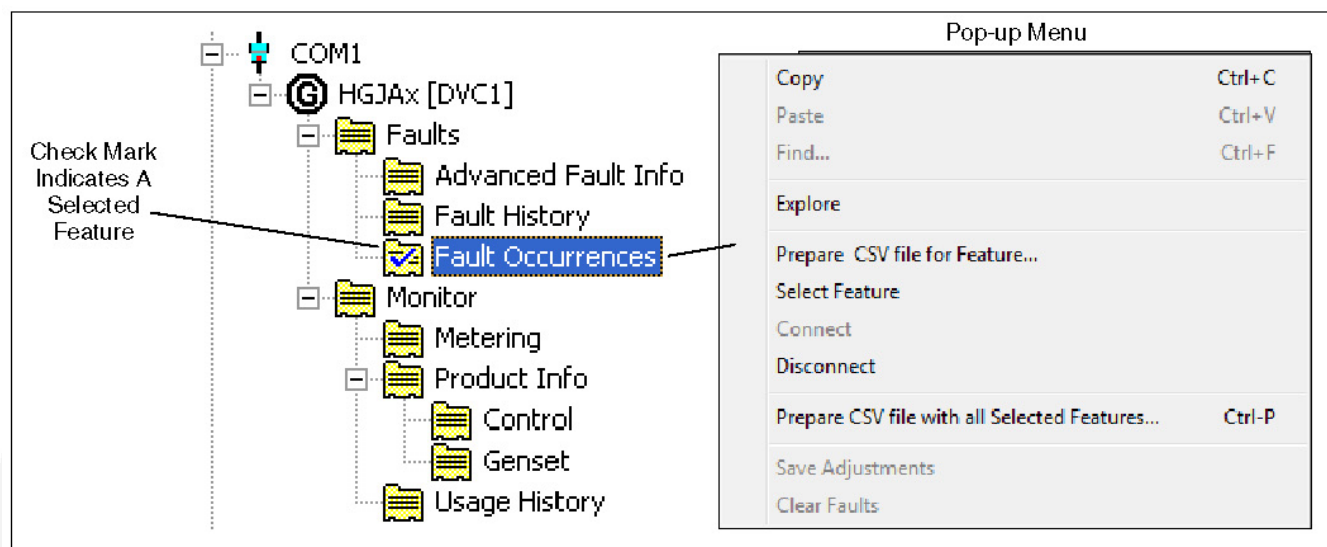

FIGURE 157. SELECTING FEATURES FOR A REPORT
**To create a report for a single group of parameters:** Select the group folder, if it contains additional folders, double click on the folder to expand it. Select the desired folder and use the mouse or keyboard menu button to display the pop-up menu (Figure 157). Select **Print Feature** from the pop-up menu, to create a report for the selected folder and display the **Parameter List Report** window (Figure 158).
**To create a report with more than one group of parameters:** Select each folder individually, use the mouse or keyboard menu button to display the popup menu, click on **Select Feature**, in the popup menu. Each folder selected will be marked with a check mark, to indicate that it has been selected for use in the report (Figure 157).